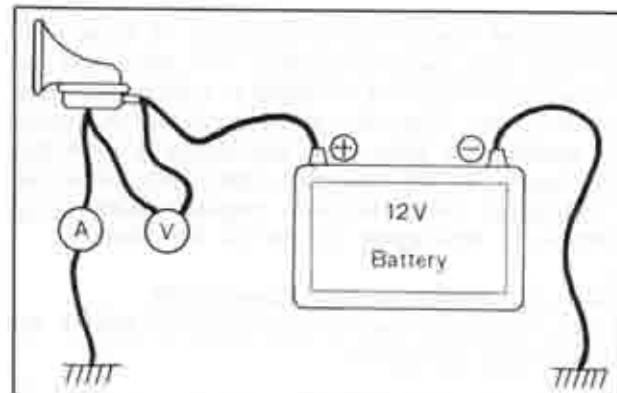

Fig. 15-40 Adjusting horn
2. Connect the ammeter and volt-meter as shown in Fig. 15-40. Turn the adjusting screw until the current draw is 1.5~2.5 amperes at 12 volts.